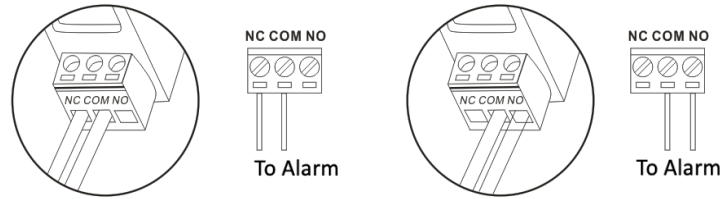

Figure 7-3 Remote alarm connection method 1: Normally closed, fault open circuit      Remote alarm connection method 2: Normally open, fault short circuit
2. When remote alarm is required, the alarm wiring is shown in Figure 7-3.